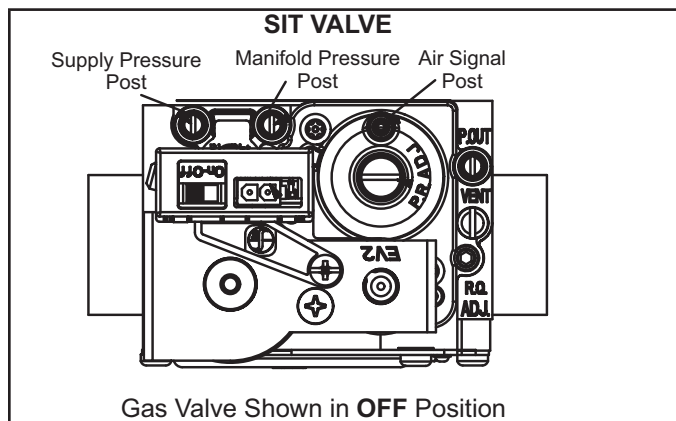

FIGURE 32
- 6 - Move switch on gas valve to OFF. Do not force. See FIGURE 32
- 8 - Move switch on gas valve to ON. Do not force. See FIGURE 32.